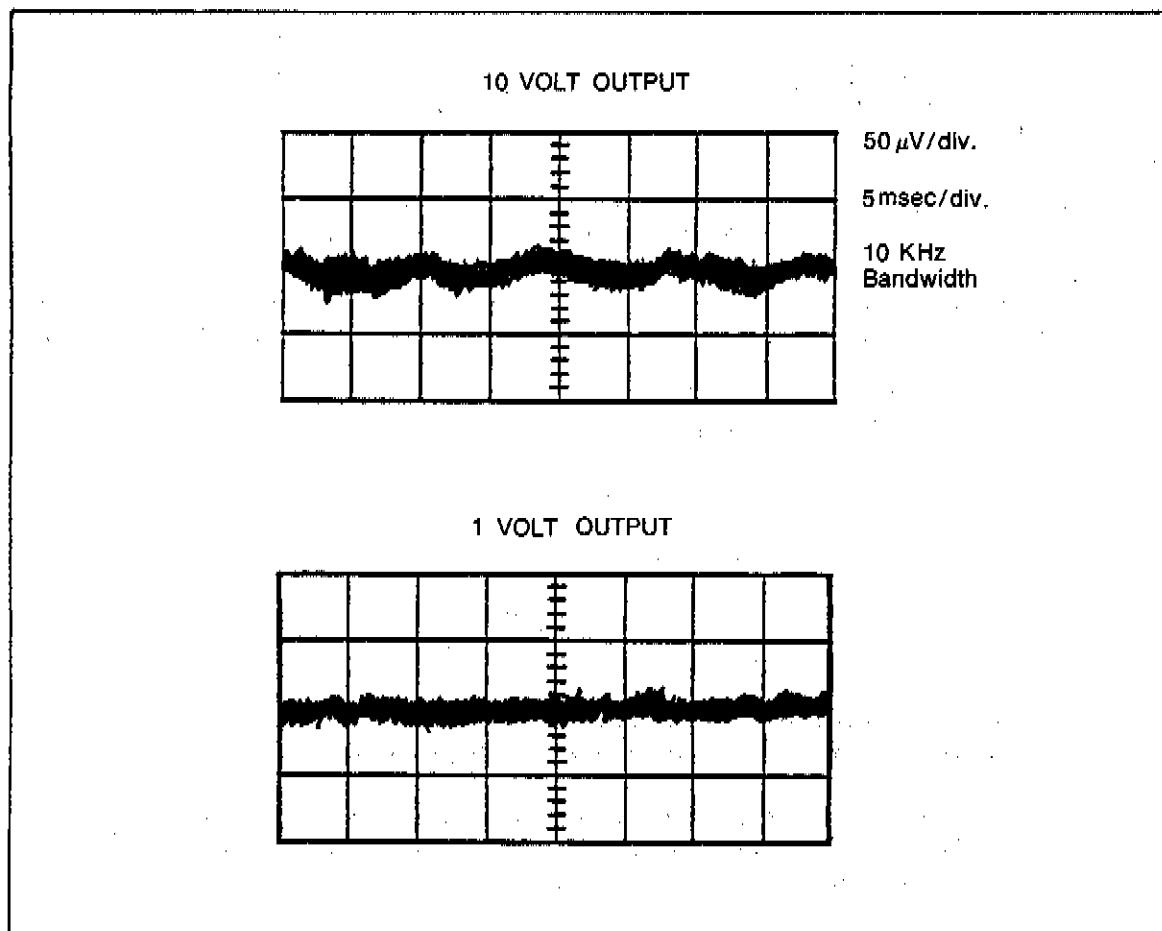

Figure 3-7. Typical Output Noise Waveforms
10. Set the 5440B/5442A to 250V and OPERATE. Wait for settling and observe a reading of less than 150 mV on the voltmeter. Typical output noise waveforms of 5440B/5442A are shown in Figure 3-7.